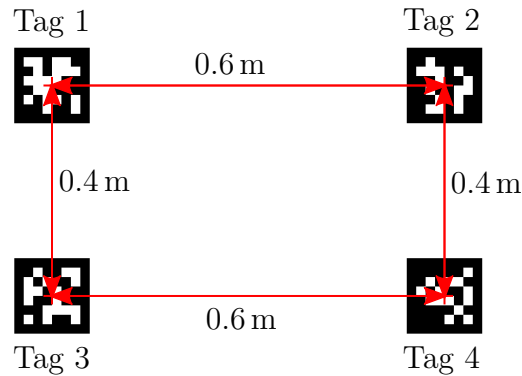

Figure 2: AprilTag positions on the test tank wall.
1. The tank wall is equipped with four AprilTags at fixed and known positions, see Fig. 2. These AprilTags can be used as anchors for the localization algorithm [1].